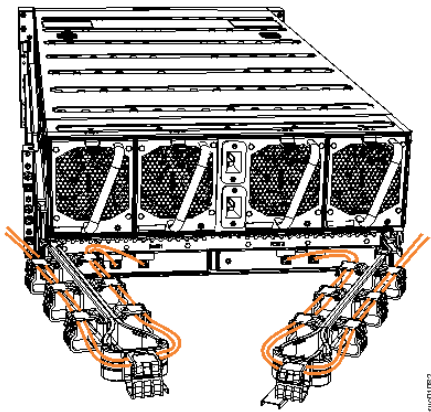

Figure 162. Example of SAS cables routed through the cable management arms
8. Route the SAS cables through the cable management arms, as shown in Figure 162 on page 202.